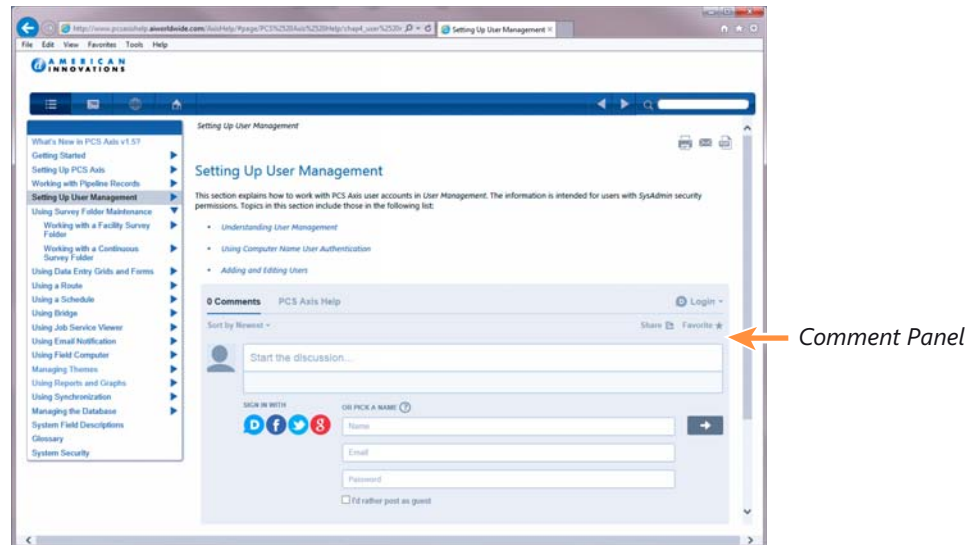

Figure 1-5. Posting a Comment as a Guest
- 3 In the comment panel of the selected help topic, type a comment in the text box **Start the discussion** (Figure 1-5, page 11).
- a Click the **Name** text box to display fields requiring data entry (Figure 1-5, page 11).